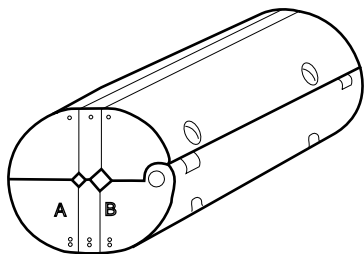

Figure 2
1.6 This issue illustrates OFT-000 tools manufactured after February, 1993. If you are using the previous model OFT-000 (Figure 2), please refer to issue 3 of this document.